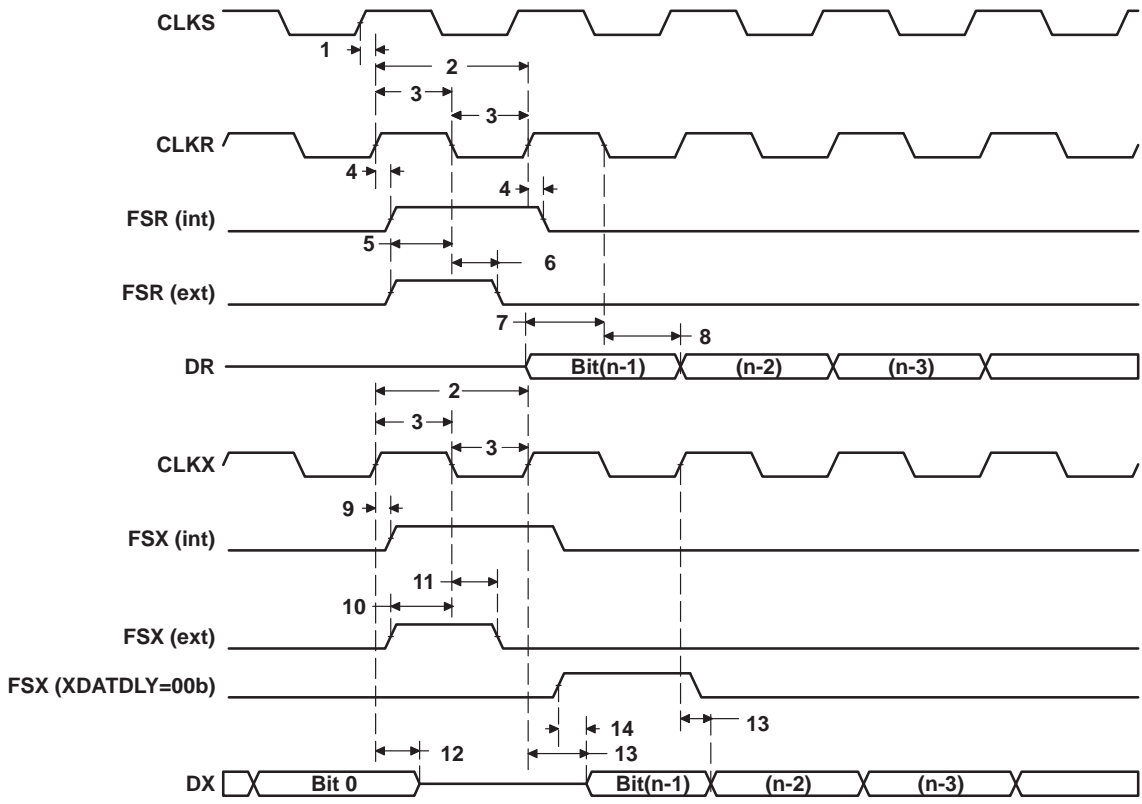

Figure 31. McBSP Timings
timing requirements for McBSP†‡ (see Figure 31)
**switching characteristics for McBSP†‡§ (see Figure 31)**